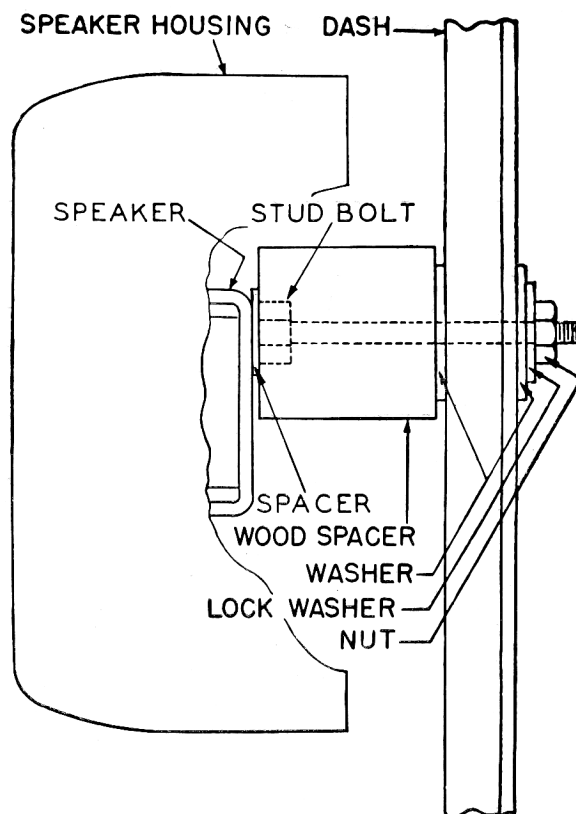

FIGURE 4 — SIDE VIEW
**DASH SPEAKER INSTALLATIONS** — (Kit Part No. 91-0187). Install the speaker on the dash in a convenient location. Locate and drill a 3/8" hole in the dash. Screw the short end of the mounting stud into the back of the speaker. Place the wood spacer block on the stud and then the washer. Bolt the speaker securely to the dash with the washer, lockwasher and nut (see Figure 4). Connect the speaker cable plug in the speaker socket on top of the Receiver housing.